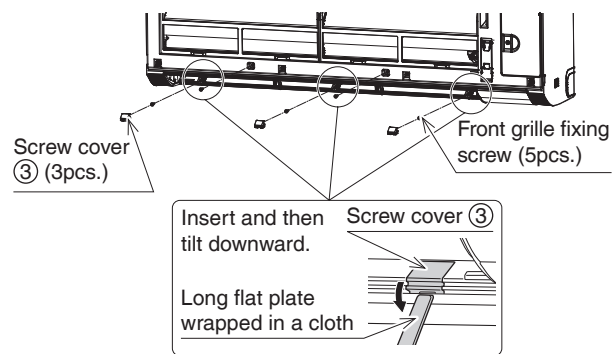

Fig. 7
- Remove screw covers ③. (Refer to Fig. 7)
- Remove the front grille fixing screws. (Refer to Fig. 7)
- 2) Install the screws of the front grille and screw covers as the Fig. 7.